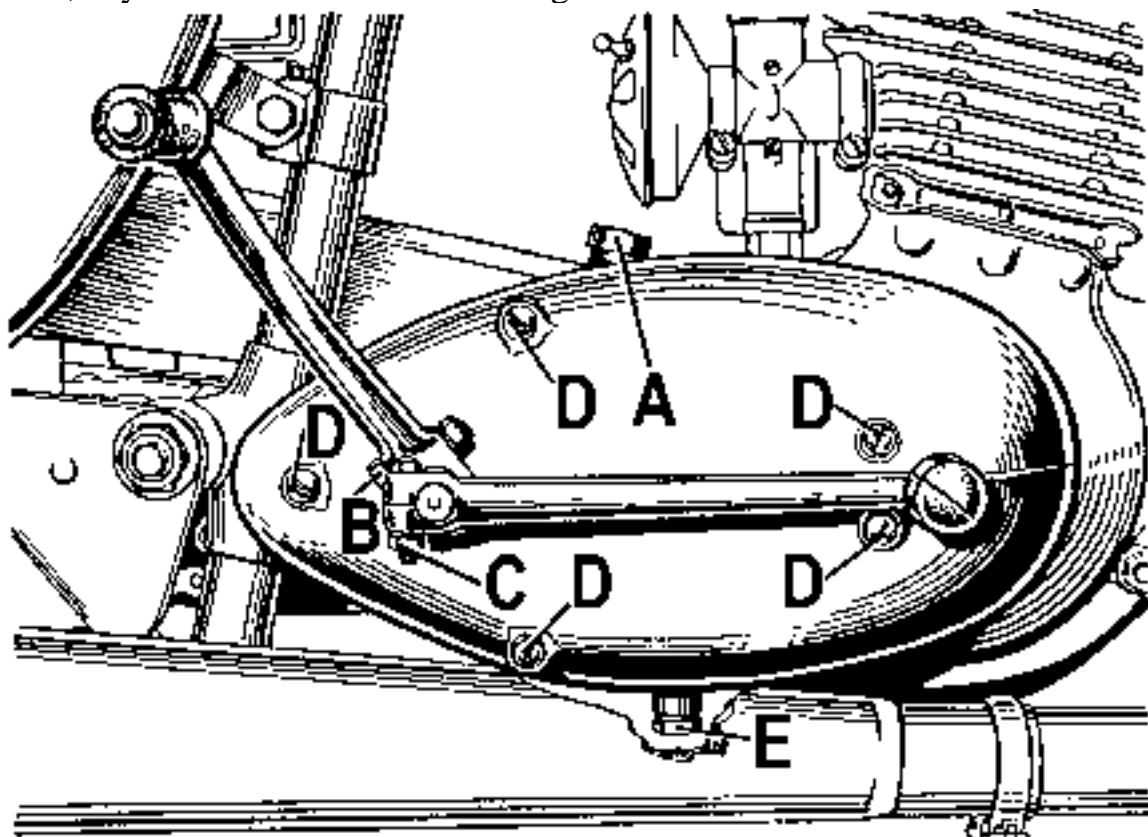

FIG. 7. *Primary drive.*
This chain will run for many thousands of miles before examination is required. This operation involves the removal of the primary chain cover (Fig. 7), after the kickstarter and gearchange pedals, both of which are mounted on splines and locked by pinch bolts (B) and (C) respectively, have been removed, together with the five securing screws (D). The normal up and down play on the front chain is up to $\frac{3}{8}$ in. (1 cm.) and the maximum permissible, indicating that the chain is unduly worn and requires replacement, is about $\frac{3}{4}$ in. (2 cm.).
To change the oil in the gearbox, remove drain plug (E) Fig. 7 at bottom of gearbox and drain out old oil. Wash out the gearbox with flushing oil and refill with new oil through filler hole (A), to level of dipstick.